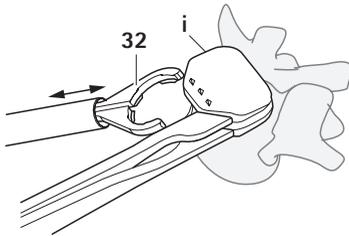

Fig. 20 Inserting the jaw piece between the two endplates
- ▶ Insert the jaw piece **32** of the revision instrument between the two endplates **i** of the intervertebral disk prosthesis, see Fig. 20. Ensure the following: